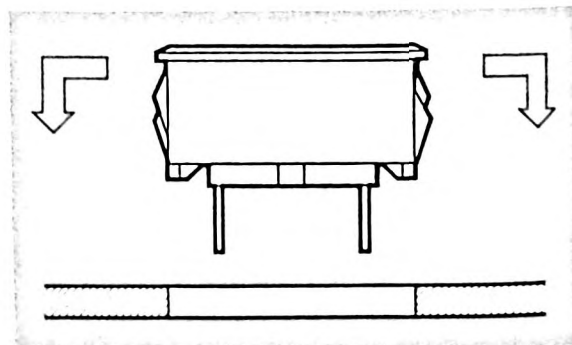

Figure 2. Installation of the Light Bar/Panel Mount Assembly into a Front Panel
Figure 2. Maximum Allowable Power Dissipation per LED vs. Ambient Temperature. Deratings based on Maximum Allowable Thermal Resistance Values, LED Junction to Ambient on a per LED Basis, $T_J \text{ MAX} = 100^\circ \text{C}$.
3. Applying even pressure to the top of the mount, press the entire assembly into the hole from the front of the panel.⁴⁾ (See Figure 2)